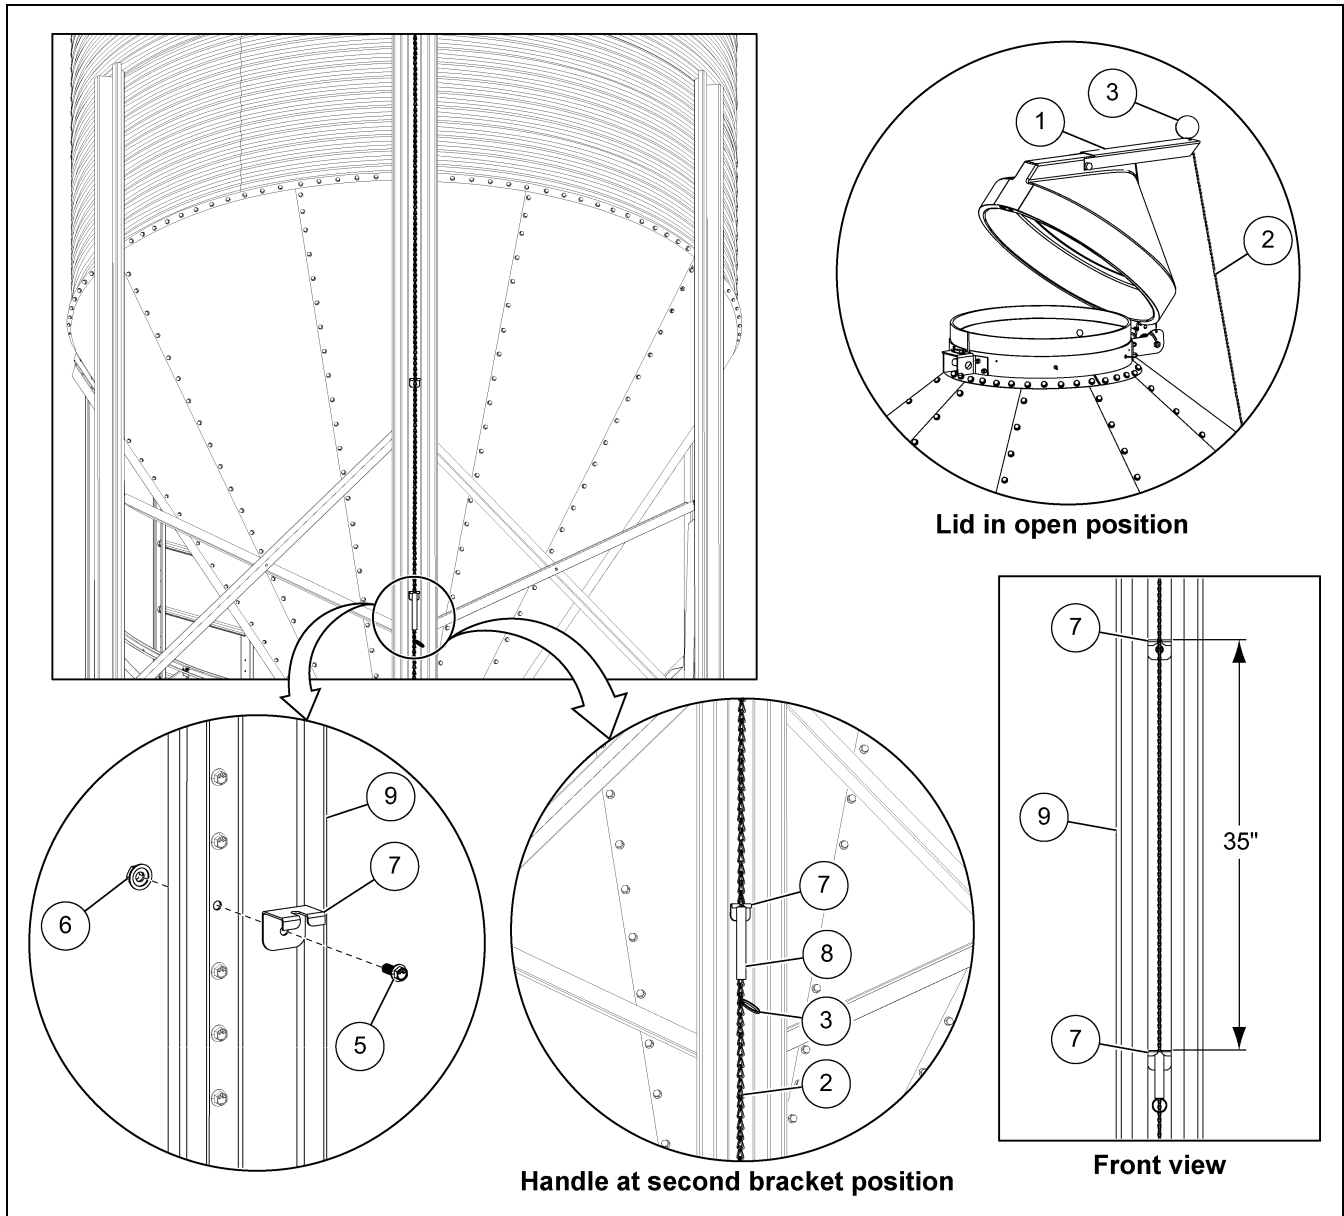

Figure 4
5. Install another indicator bracket (7) to the leg (9) at 35" below the previously installed bracket (7) and allow the chain (2) to pass through. (See Figure 4.)
**NOTE:** Make sure the lid is in opened before adjusting the handle (8) and the key ring (3).